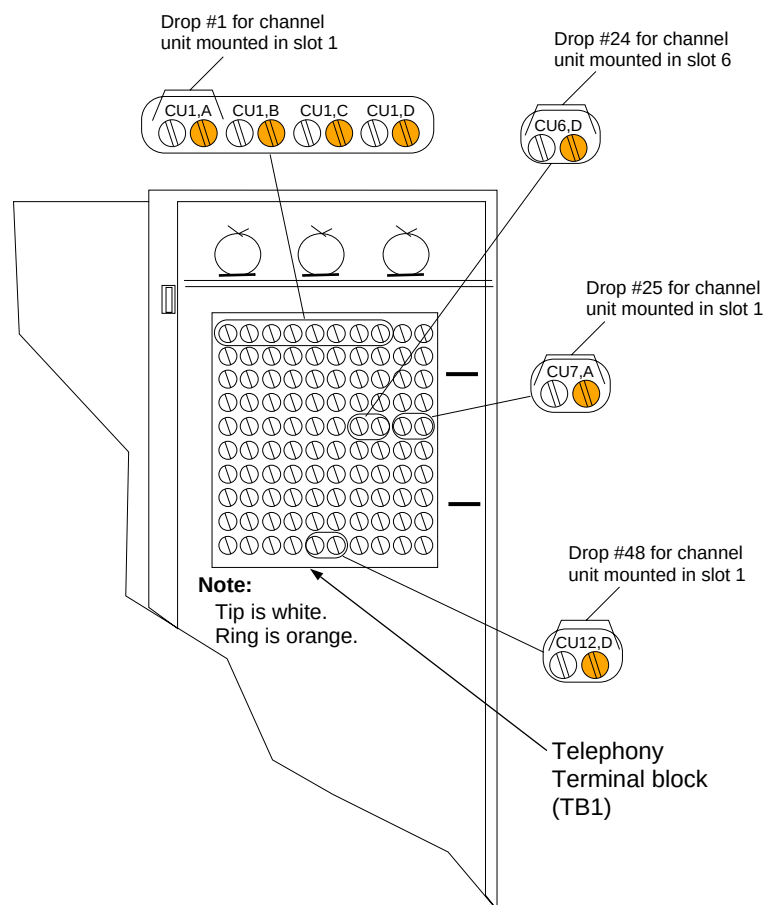

Figure 3 – Location of TB1 Terminals
10. Locate TB1 (Figure 3).
12. Connect the test telephone to the tip (white) and ring (orange) terminals of **CU1,A** (Figure 3).